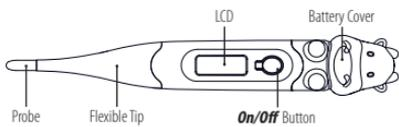

Figure 1: Digital thermometer components
- Press the **On/Off** Button next to LCD display in Figure 1. A tone will sound as the screen shows **188.8.8**, followed by last recorded temperature. After showing the self-test temperature, the thermometer is now in the testing mode.